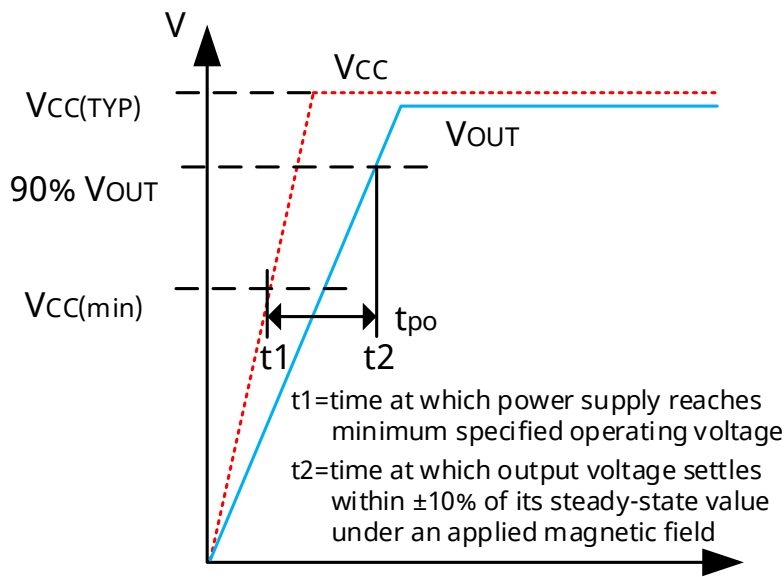

Fig.4 Power-On Time Definition
**Power-On Time ( $t_{PO}$ ):** Power-On Time ( $t_{PO}$ ) is defined as the time it takes for the output voltage to settle within  $\pm 10\%$  of its steady-state value under an applied magnetic field after the power supply has reached its minimum specified operating voltage ( $VCC(\min)$ ) as shown in Figure 4.